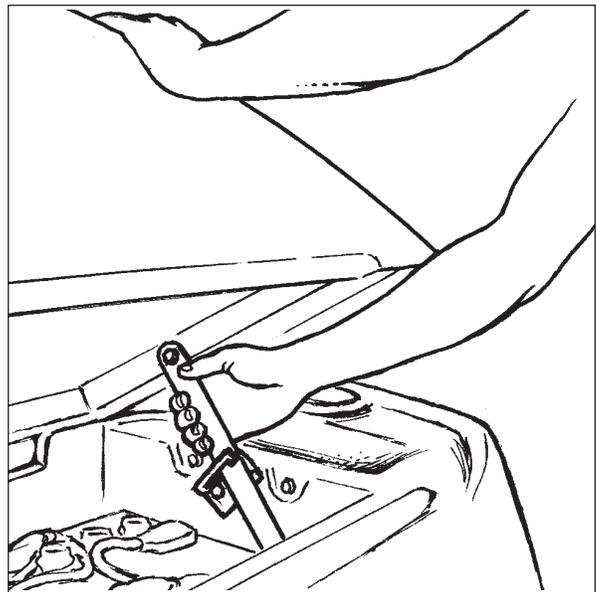

Figure 29B
**NOTE:** There is an intermediate position available for holding the recovery tank open for charging batteries. See figure 29B.